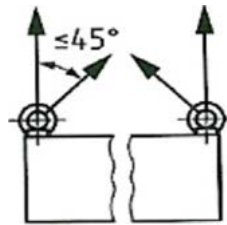

Figure 3: Maximum angle eye bolt
- ◆ Full load of the eye bolts in a maximum angle of 45° (please refer to Figure 3: Maximum angle eye bolt).